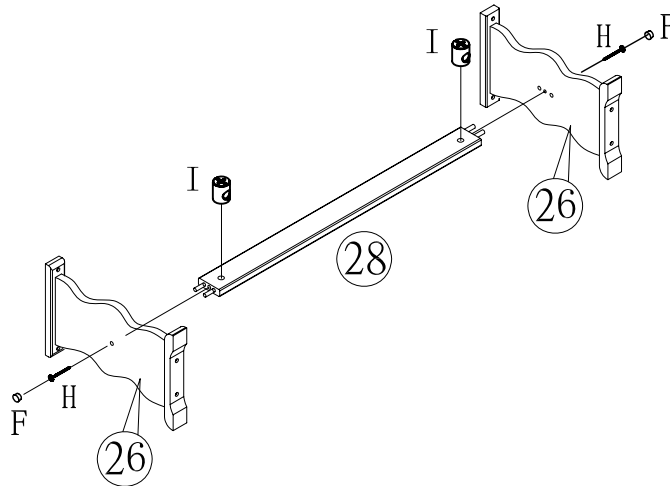

FIGURE 3
- 1) ATTACH CROSSBAR #28 TO LEGS #26 INSERTING WOOD DOWELS LOCATED AT ENDS OF CROSSBAR INTO HOLES LOCATED ON LEGS. SECURE CONNECTION USING (02) SCREWS(H) AND (02) NUTS(I). AS SHOWN IN FIGURE 3.
- 2) INSERT (02) WOOD HOLE COVERS(F) INTO HOLES LOCATED AT LEGS #26 AS SHOWN IN FIGURE 3.